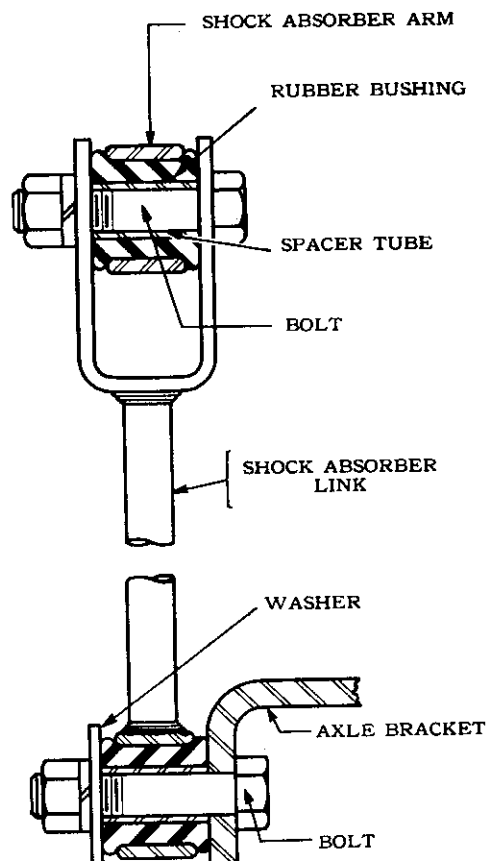

FIG. 312
**CHAMPION AND COMMANDER** The one-piece connecting link rubber bushings should be inspected every time the fluid is checked. In this type of link the rubber, compressed to adhere to the lever and link or to the lower bolt and link, eliminates friction because the movement of the link causes the rubber to stretch. The rubber bushings should not be lubricated but should be kept free from oil or grease of any kind. (See Fig. 312.)